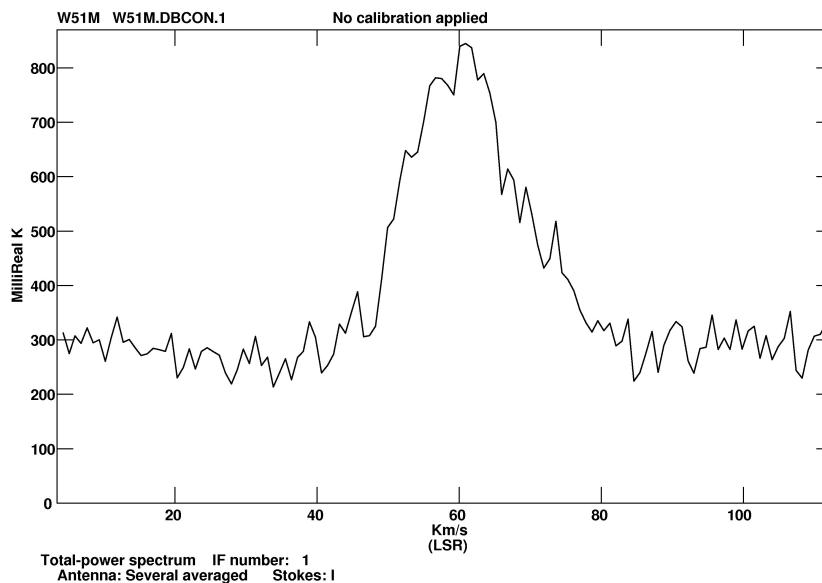

Figure 10.2: **POSSM** display of all of a 12m observation taken on W51. All samples (on and off the actual source) and both “antennas” are averaged together.
**LWPLA** was then used to make a PostScript version of the plot seen in Figure 10.2.